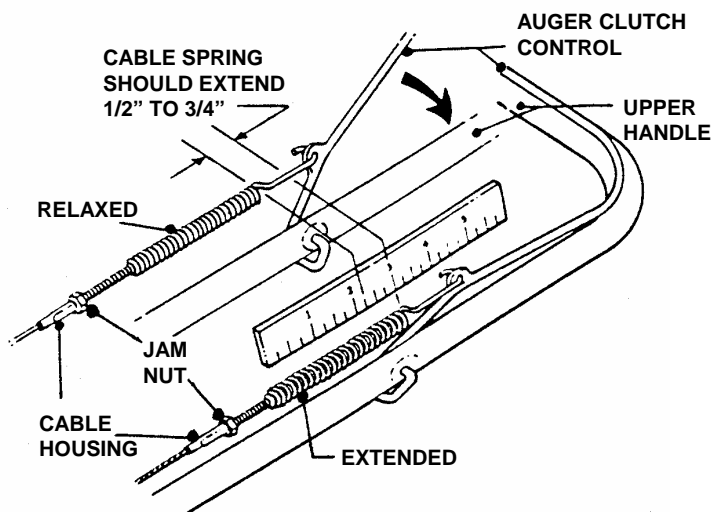

FIGURE 4.1
1. Measure control cable extension from a relaxed position to full extended position. Move control lever against handle. Measure the overall length of the spring. The length of the cable spring should increase by 1/2" to 3/4" when the clutch control is depressed. See Figure 4.1.